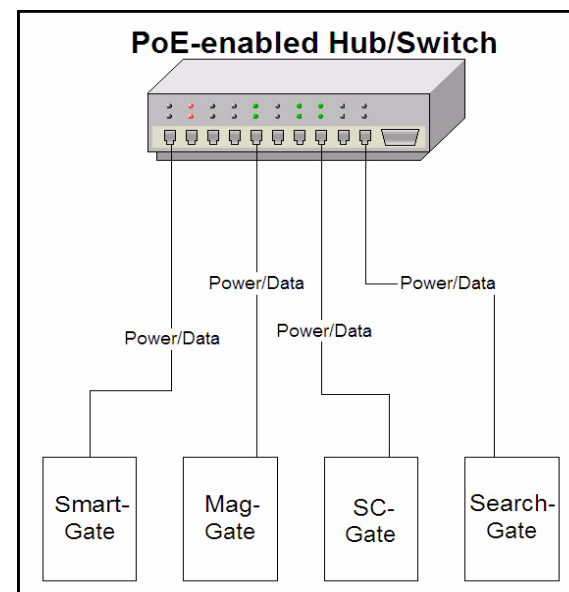

Figure A-2 PoE-enabled Hub Connected Directly to BioGate Terminals
- Connect a CAT-5 Ethernet cable between the Ethernet port of the **BioGate** terminal and an 802.3 af PoE-enabled hub. An example of the connection is displayed in **Figure A-2**.